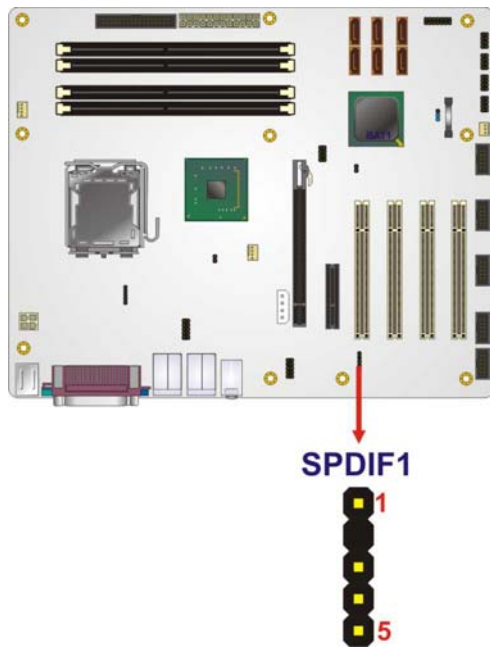

Figure 3-15: SPDIF Connector Pinout Locations
- CN Location:** See Figure 3-15